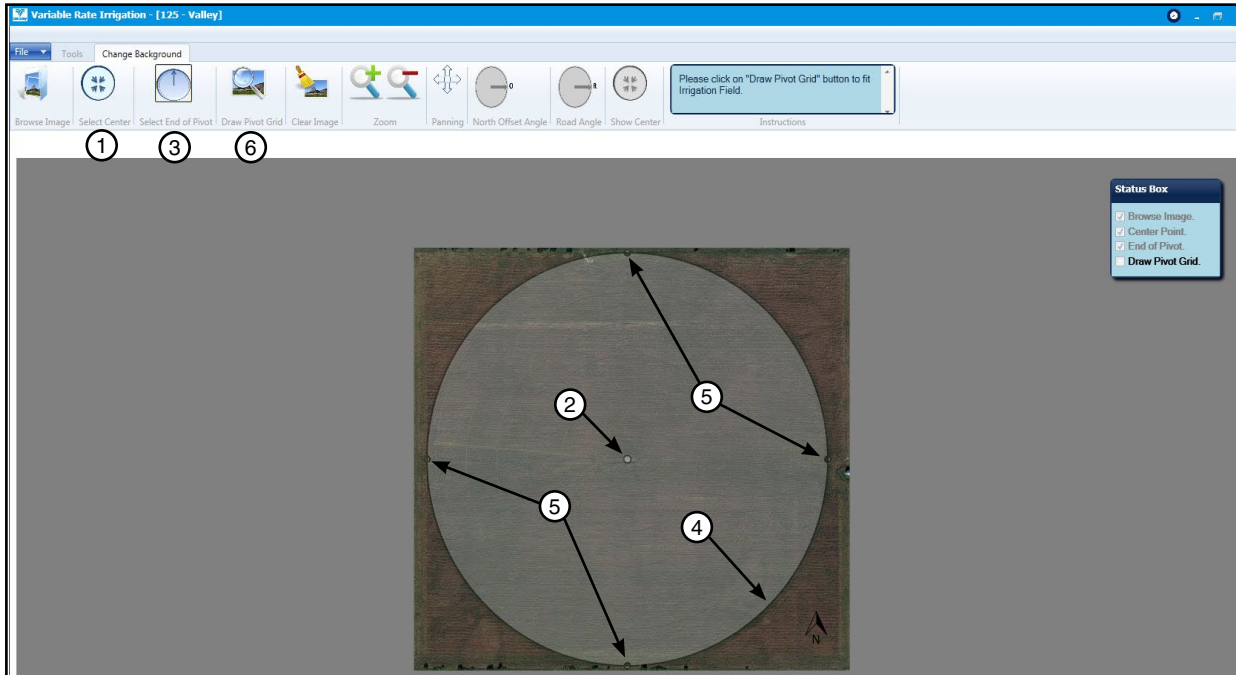

Figure 14-1 1. Select Center Button 2. Centerpoint Indicator 3. Select End of Pivot Button 4. Boundary 5. Boundary Node 6. Draw Pivot Grid Button
3. Click the **Select Center** button, position the cross hairs over the center of the field, and left-click to set the centerpoint. See Figure 14-1.